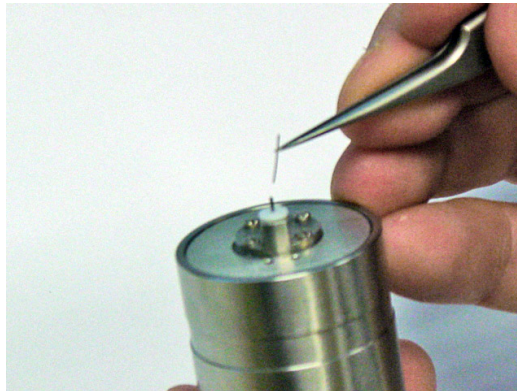

Figure 97 Inserting STM tip wire in scanner
- 2 Insert a tip into the nose assembly or scanner. Grasp the tip with a tweezers, then insert it into the hollow tube until it protrudes approximately 2 mm (Figure 97).